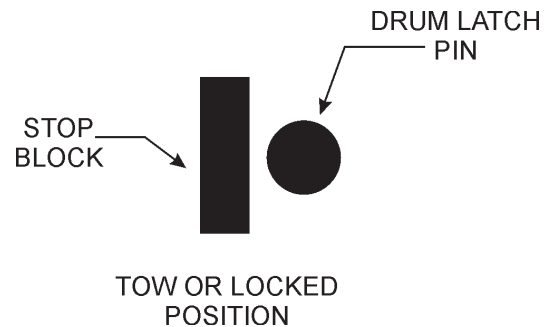

Figure 6. Drum Latch Pin (Tow or Locked Position)
**DO NOT** tow the mixer unless the mixing drum is **completely empty**. **ALWAYS** make sure the drum latch pin is fully engaged to the **right** (Figure 6) of the drum stop block. This will keep the drum from rotating.